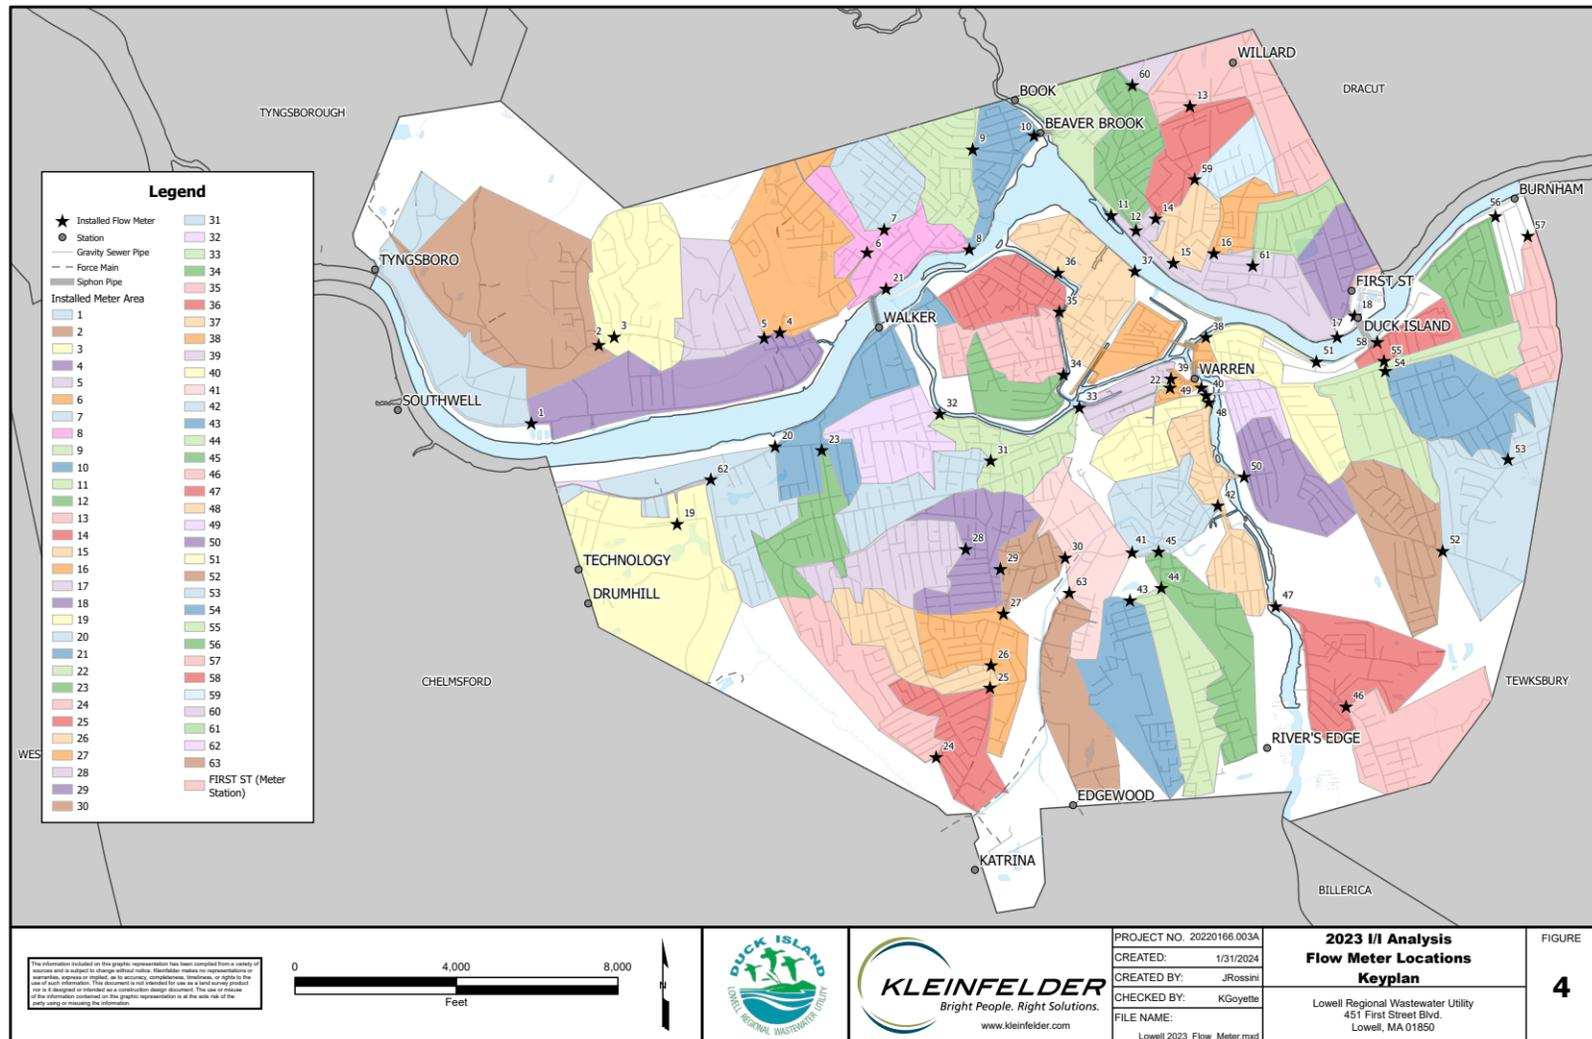

Figure 9. Flow Metering Areas
1. Conducted a City-wide Flow Metering Program, see Figure 9.